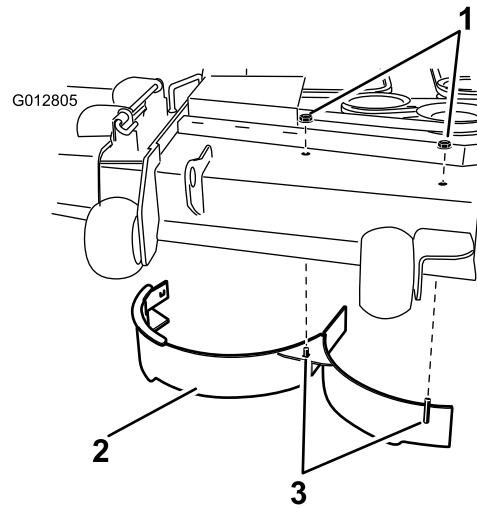

Figure 3
- Install the right baffle using 2 nuts (5/16 inch) as shown in Figure 3. Tighten the fasteners by hand.